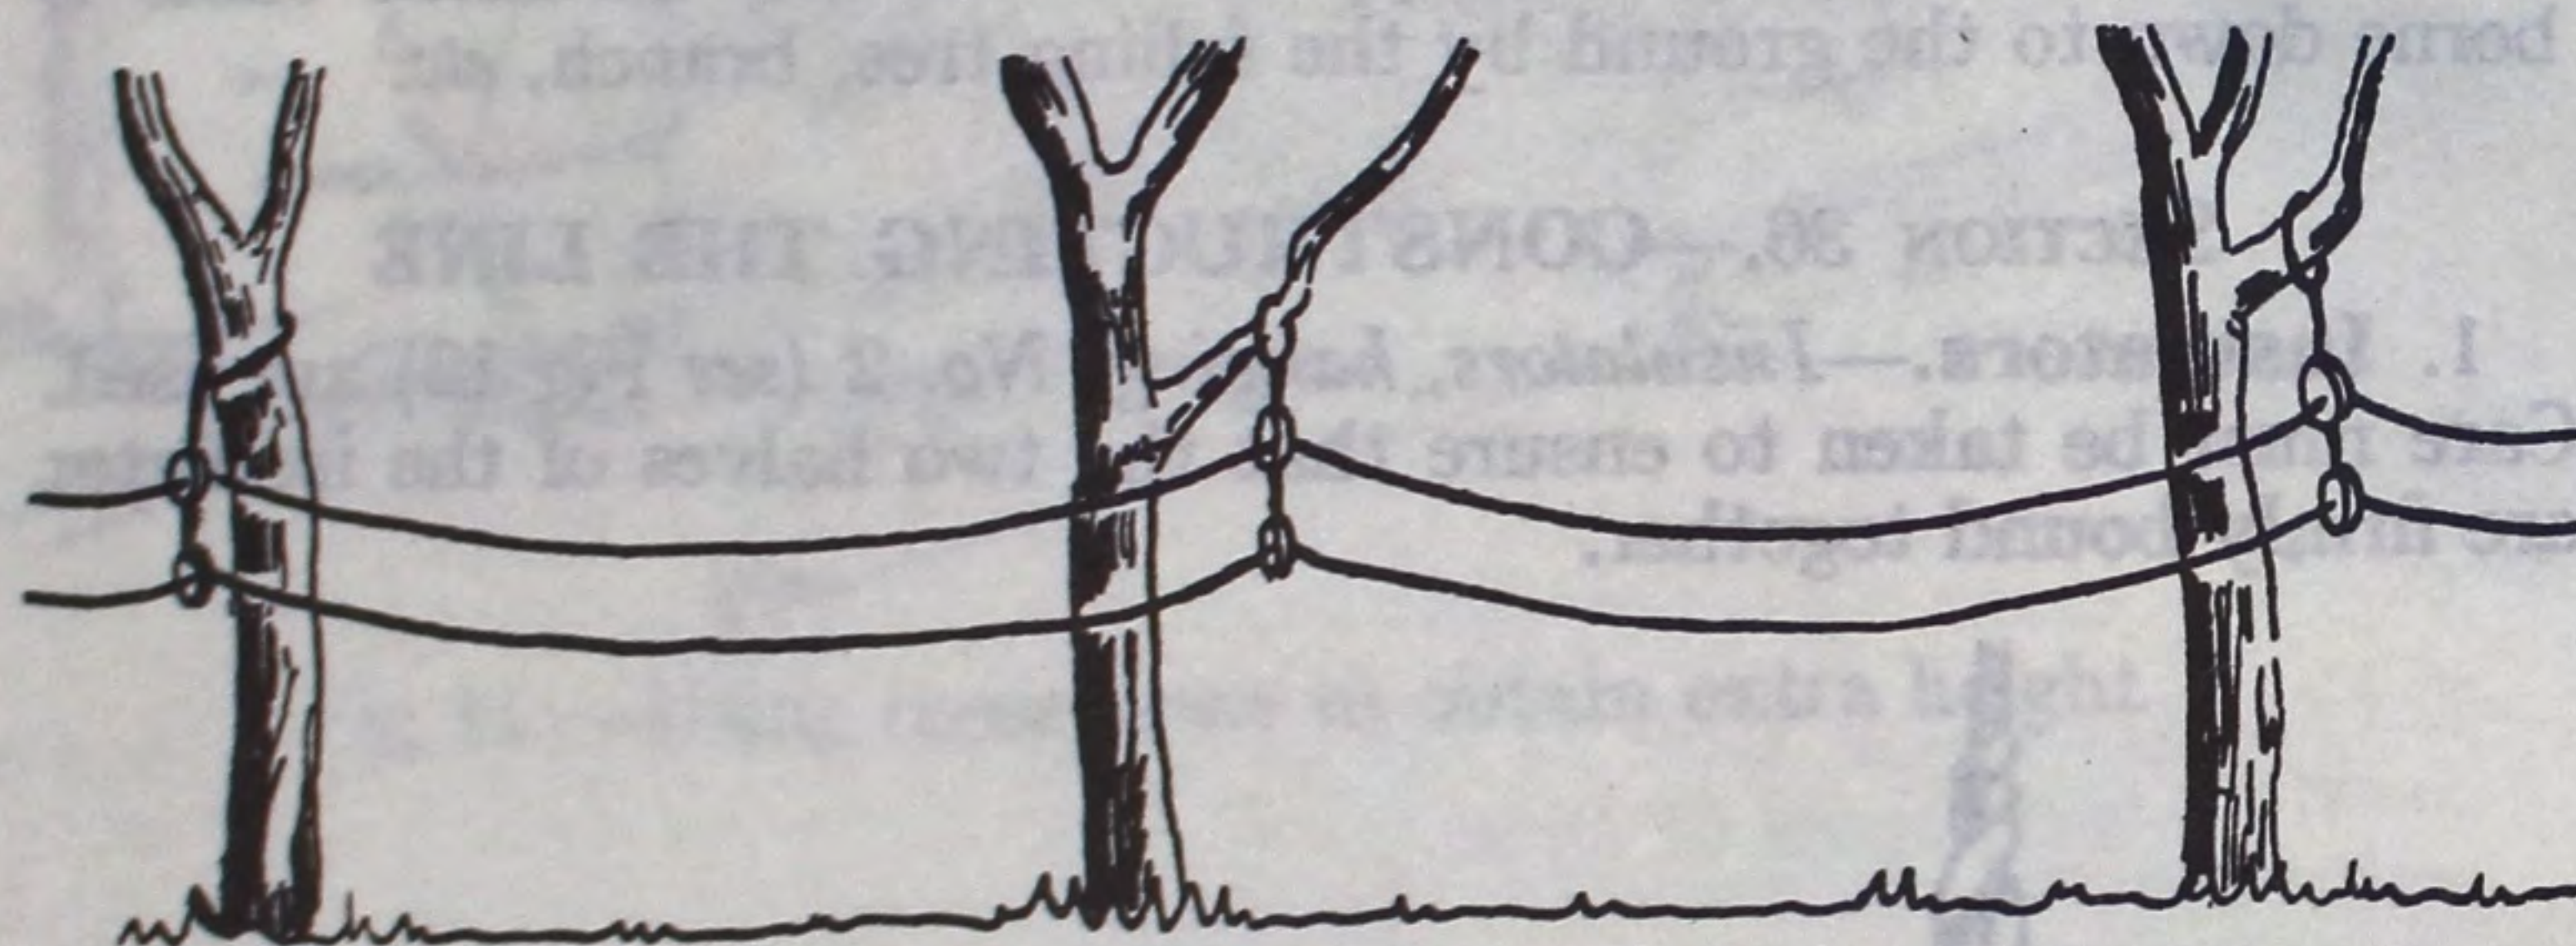

Fig 13.—Tree slung route
5. **Tree slings.**—The line is constructed (usually as one pair of wires) by suspending it from trees by means of slings. The slings are made up of a pair of insulators suspended by wire. The line wire is passed through the hole in the insulator and hangs in loops between the slings (see Fig 13).